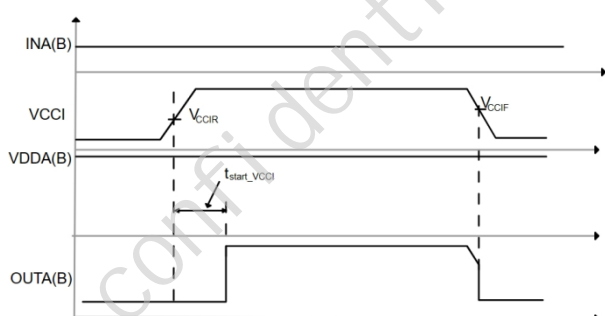
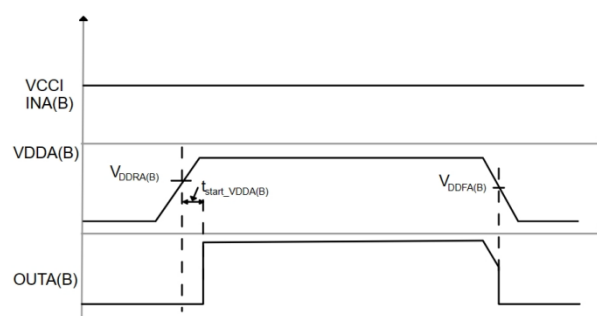

Figure 26. VCCI Power-up UVLO Delay
Figure 27. VDD Power-up UVLO Delay
Before the driver is ready to deliver an appropriate output state, there is a power-up delay time from the rising edge of the undervoltage lockout (UVLO) to outputs, which is defined as t_{start_VCCI} to OUTA(B) for VCCI UVLO (typically 55us) and t_{start_VDD} to OUTA(B) for VDD UVLO (typically 6us). It is recommended to consider proper margin time before launching PWM signal after the driver's VCCI and VDD bias supply is ready. Figure 26 and Figure 27 show the power up UVLO delay timing diagram for VCCI and VDD.